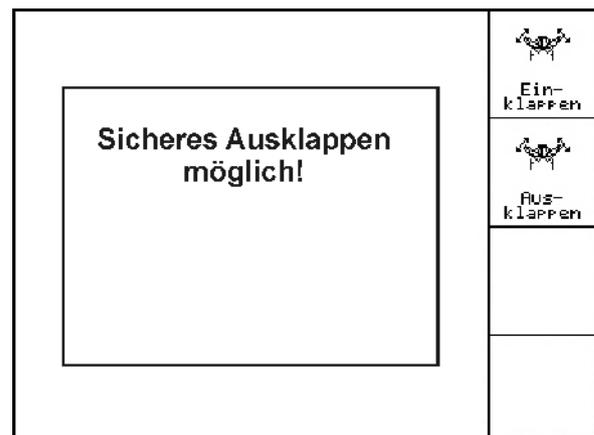

Fig. 65
- Display: Safe folding out possible! (Fig. 65)